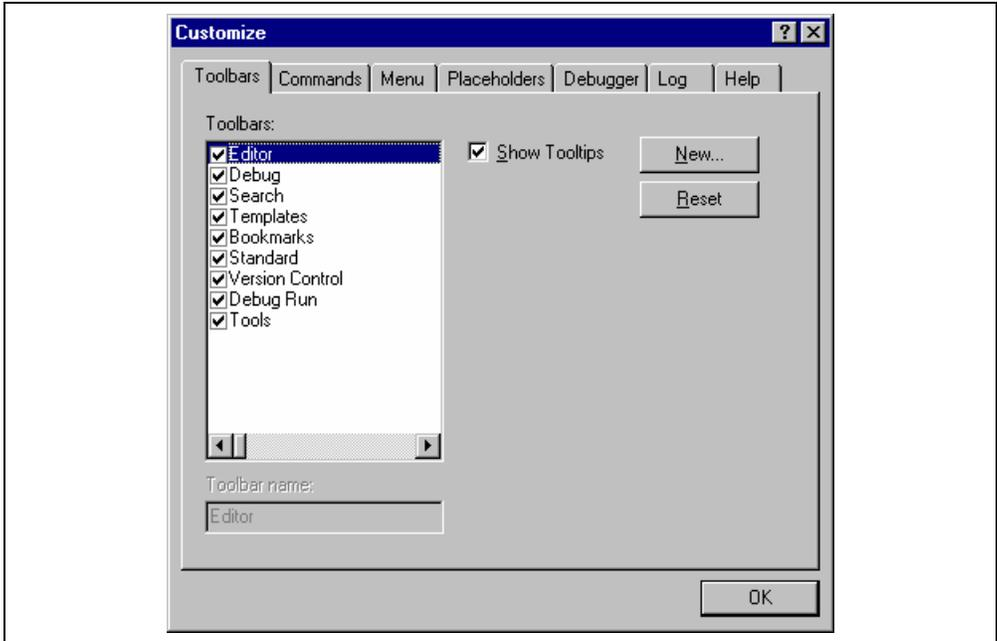
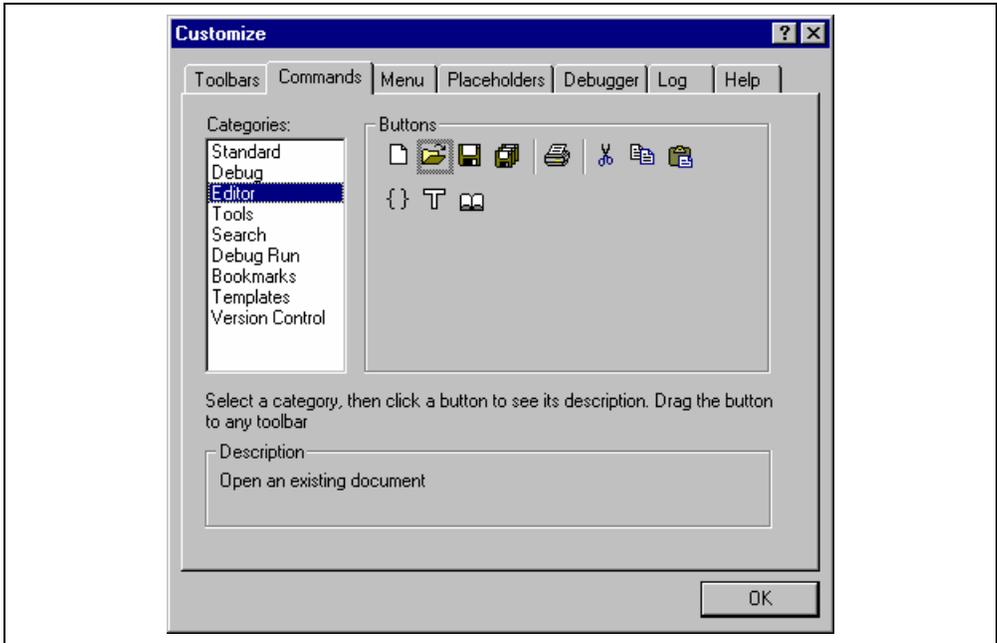
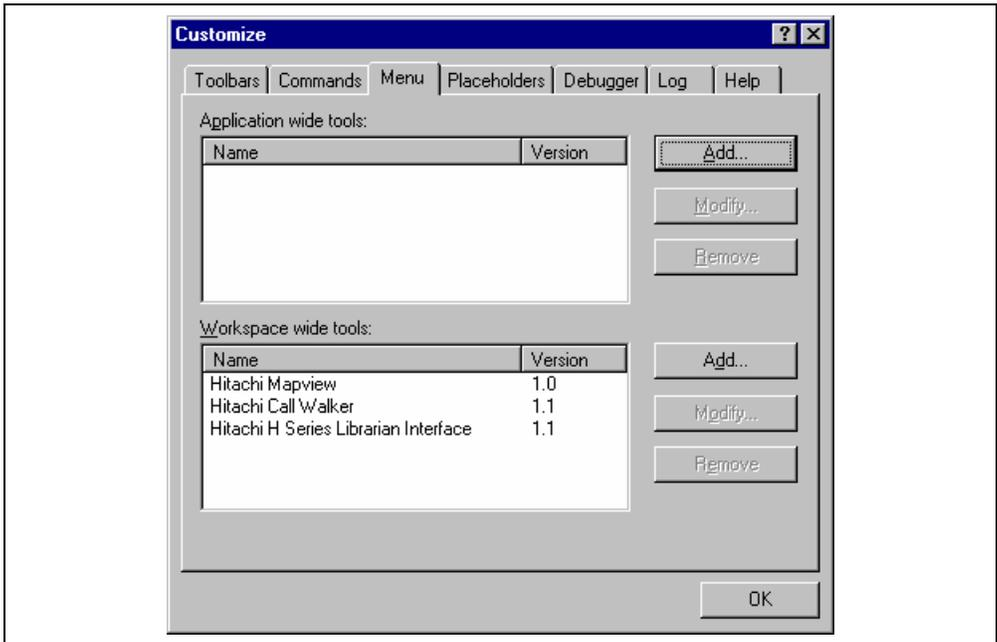
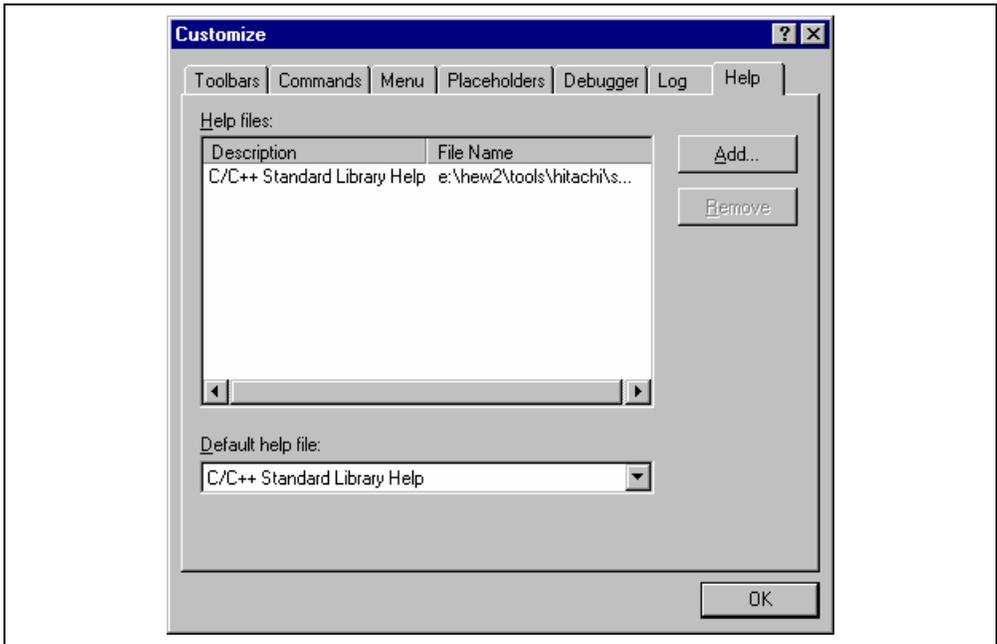

Figure 6.1: Customize Dialog Toolbars Tab
Figure 6.3: Customize Dialog Commands Tab
Figure 6.4: Customize Dialog Menu Tab
Figure 6.7: Customize Dialog Help Tab
The High-performance Embedded Workshop provides 2 standard toolbars as detailed in chapter 1, “Overview”. In addition to these, you may also construct your own toolbars via the “Customize” dialog (figure 6.1).
1. Select [Tools->Customize...]. The dialog shown in figure 6.1 will be displayed.
1. Select [**T**ools->**C**ustomize...]. The dialog shown in figure 6.1 will be displayed. Select the “Commands” tab (see figure 6.3).
1. Select [**Tools->Customize...**]. The dialog shown in figure 6.1 will be displayed. Select the “Commands” tab (see figure 6.3).
1. Select [**Tools->Customize...**]. The dialog shown in figure 6.1 will be displayed.
2. Select the user-defined toolbar from the “Toolbars” list, and the “Reset” button in figure 6.1 changes to the “Delete” button. Then click the “Delete” button.
1. Select [**Tools->Customize...**]. The dialog shown in figure 6.1 will be displayed. Select the “Menu” tab (see figure 6.4). The first thing for you to decide is whether you are adding a global application wide tool (“Application wide tools:”), which will be available to all of your workspaces. Or whether you wish to add a workspace wide tool (“Workspace wide tool:”), which is only valid for the current workspace. Once you have made the choice choose the relevant section of the dialog.
1. Select [**T**ools->**C**ustomize...]. The dialog shown in figure 6.1 will be displayed. Select the “Menu” tab (see figure 6.4).
1. Select [**Tools->Customize...**]. The dialog shown in figure 6.1 will be displayed. Select the “Help” tab (see figure 6.7).